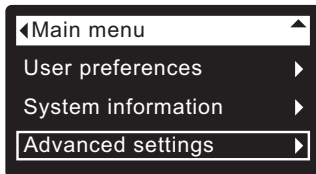

FIG. 135
1. From any of the rolling status screens, press the SELECT (O) button to display the **Main menu**.
2. Press the DOWN (▼) button to scroll through the menu options until **Advanced settings** is highlighted (See Figure 135).